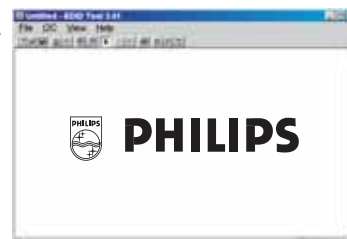

Fig.9
4. Click OK button. The main menu appears (as shown in Fig. 9).